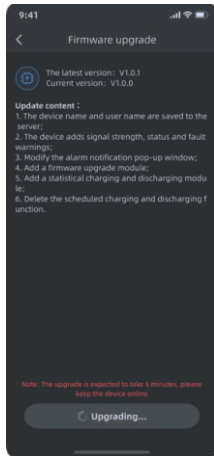

Figure 5
- 5)Figure 5: Displaying upgrade in progress;Keep the device online during the upgrade process;Automatically exit the firmware upgrade page after success;Failed, please retry according to the prompt.